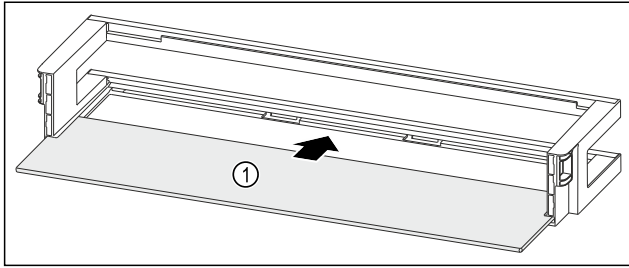

Fig. 52 Door rack with shelf
- ▶ Push the shelf Fig. 52 (1) into the side recesses.